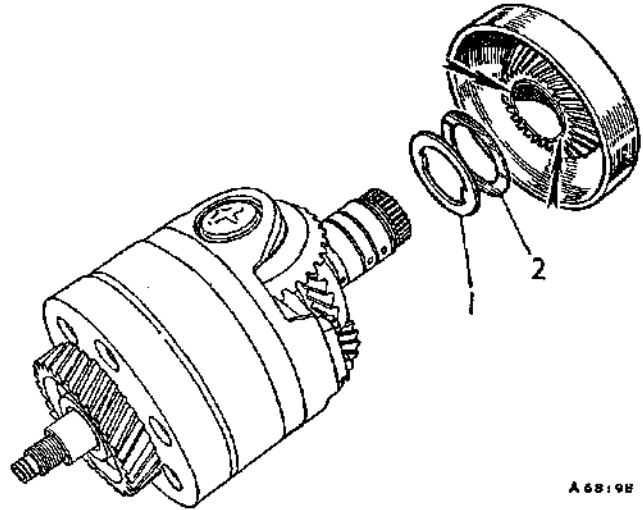

Fig. Fa.46
(26) Assemble the third speed reaction gear with its bi-metal washer fitted with the white metal face towards the reverse output gear (see Fig. Fa.46) and with the steel shim(s) located between the bi-metal washer and the gear.
Retain each washer and shim in position with petroleum jelly and refit the assembly to the gear train (see Fig. Fa.46).